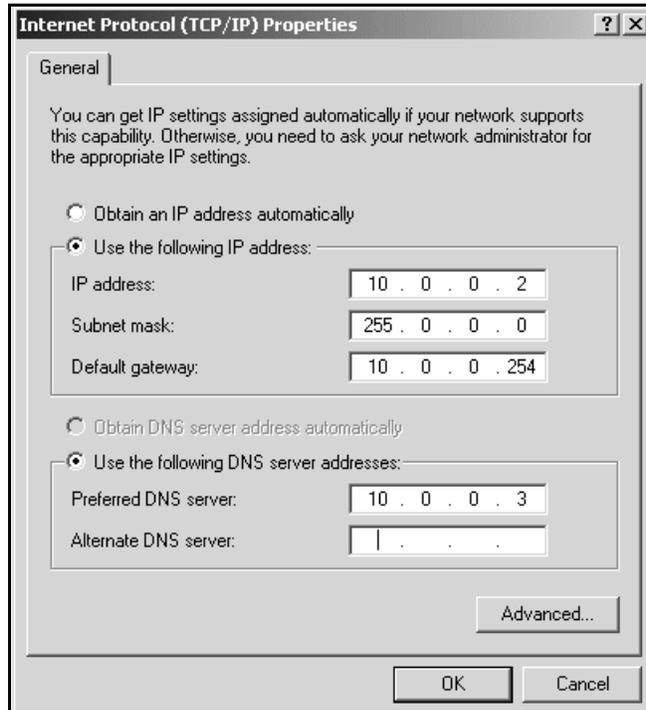

Fig. 6. TCP/IP Settings Page.
3. Double click “**Internet Protocol (TCP/IP)**” to open the TCP/IP Settings. A popup as shown in Figure 6 should appear.